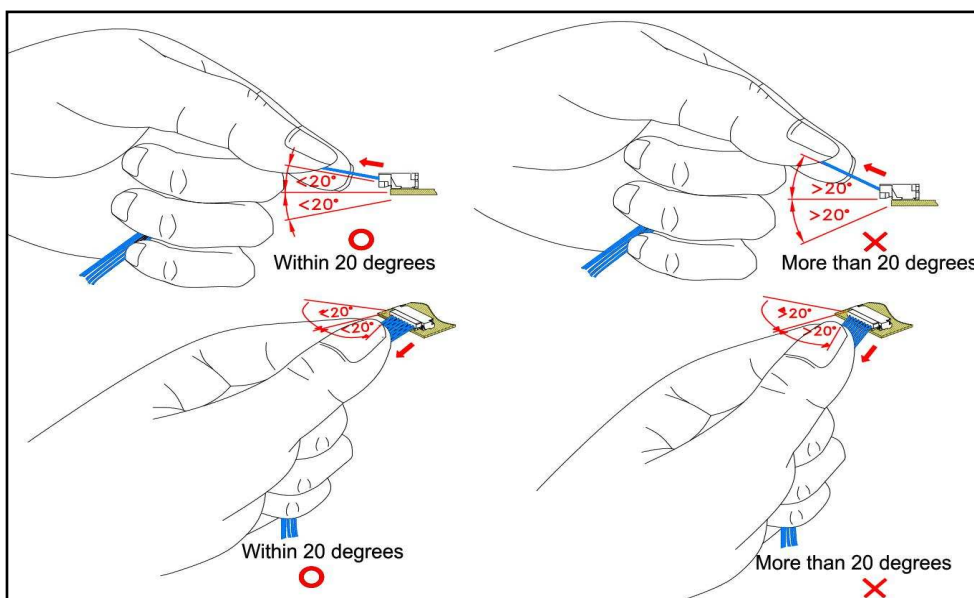

figure 5.2
5.2 Hold wires in a bundle and unmate housing from wafer on the same axis. At this time, conduct operation within 20 degrees to mating axis. 在拔除連接器時，務必先握住線材成束後，並與連接器保持同軸，線材折彎角度要在同軸角度的 20 度內進行。(see figure 5.2)
Do not unmate Housing forcibly with prying more than 20 degrees, because such handling may cause breakage of connector. 切勿在拔除連接器時，試圖以超越 20 度以上拔出幅度強行拔出連接器，可能導致連接器破損。(see figure 5.2)